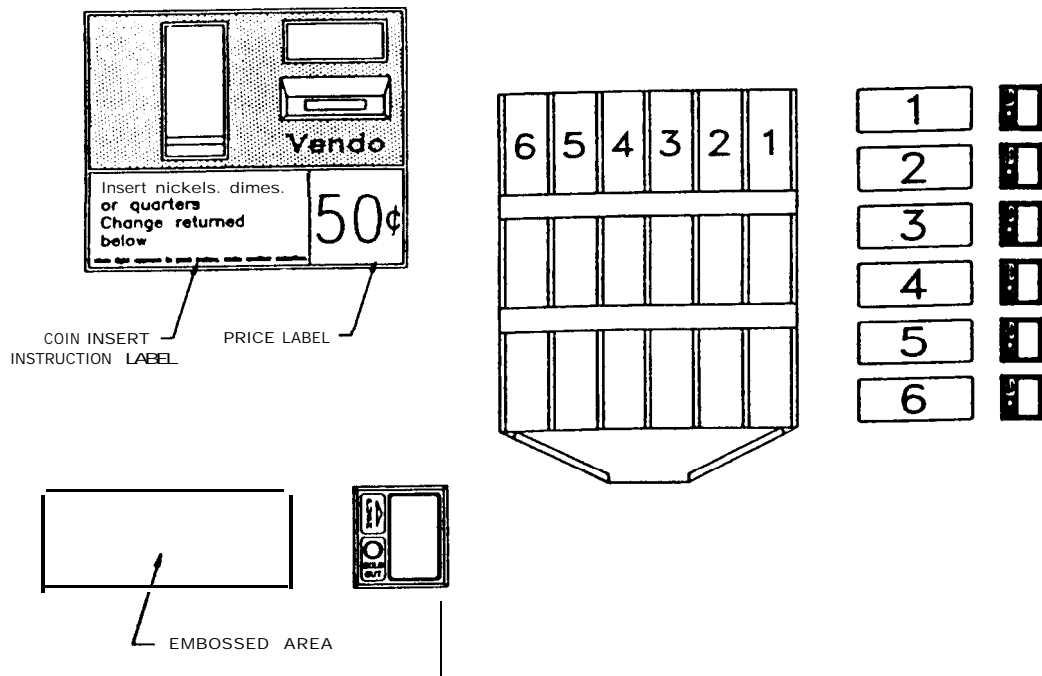

FIGURE 4
* Install the coin instruction label, price label and the flavor labels by each respective selection button. See figure 4.